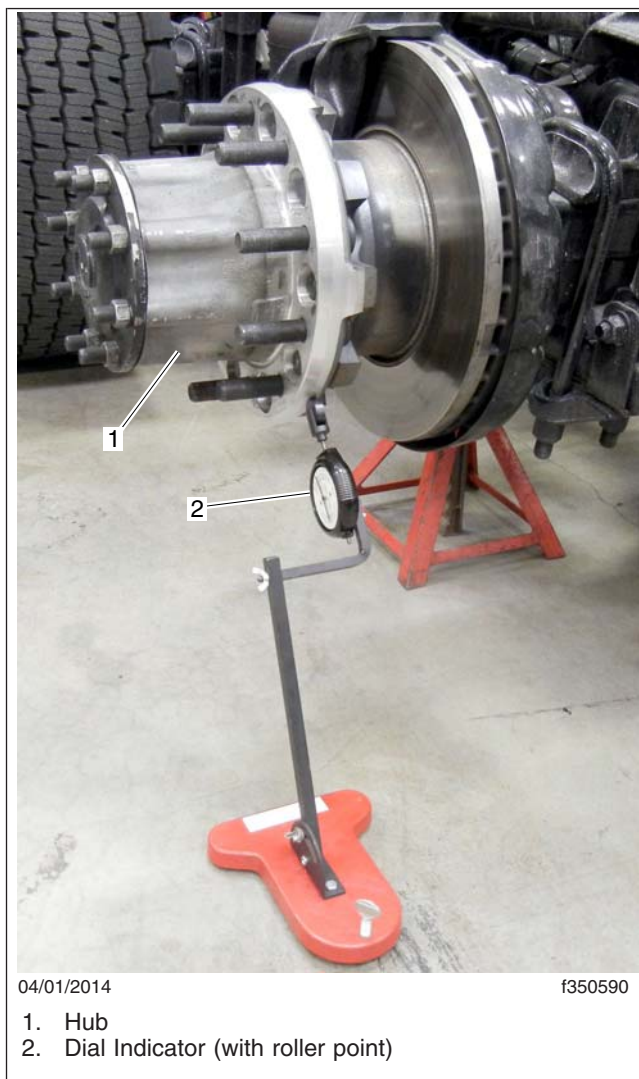

Fig. 2, Setup to Measure Radial Runout
6. To measure radial runout, set up a dial indicator as shown in Fig. 2, then turn the hub one revolution and note the highest and lowest